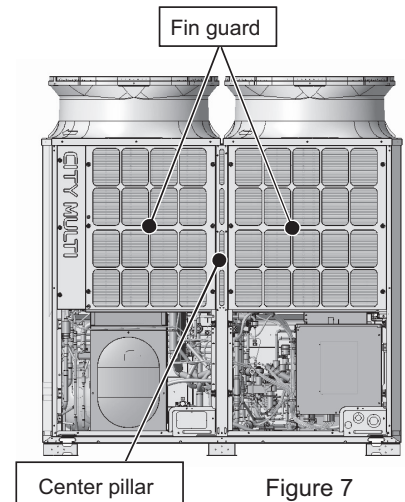

Figure 7
- (6) Remove the right and left fin guards and the center pillar by unscrewing the 18 screws. (See Figure 7.)